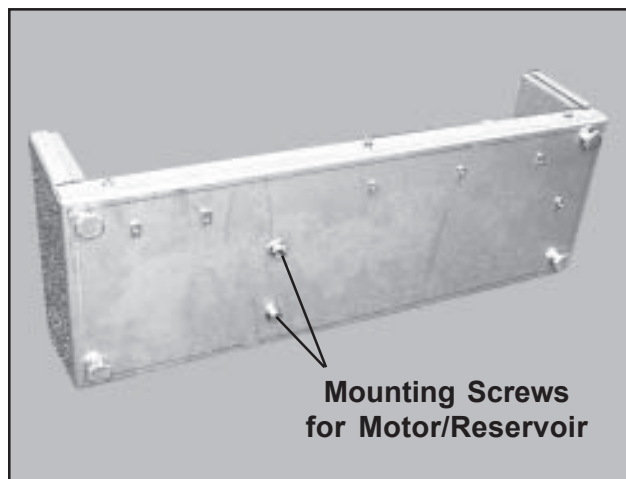

Figure 49. Mounting Screws Under the Power pack
4. Turn the power pack onto one side, and, with a 1/2-in. wrench, remove the two mounting screws and lockwashers underneath (Figure 49). Removing these two screws frees the motor/reservoir.